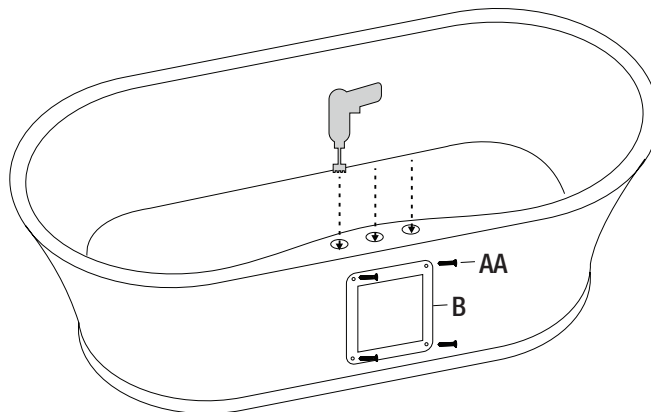

Fig. 7
- Using masking tape, cover the area of the deck where you are choosing to install the faucets. Using extreme care, mark and double check the hole centers as per the faucet manufacturers instructions. Also verify your chosen location will not interfere with the overflow positioned underneath. Drill the required holes through the deck of the bath, using appropriate sized hole saws. Remove the masking tape upon completion, see Fig. 7.
- Test the entire system for any leakage by filling the tub with water, and then draining it. Once no leaks are detected, install the access panel (B) cover using the screws provided (AA).